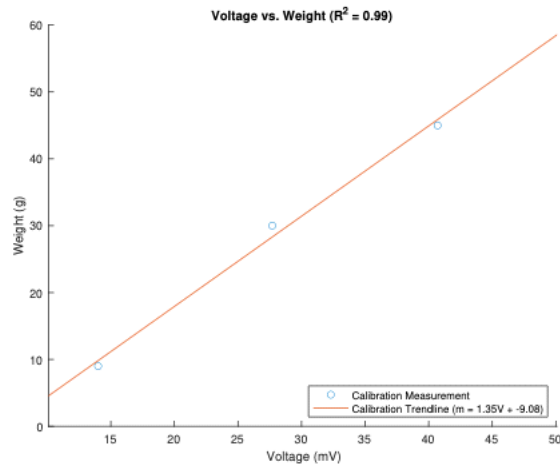

Figure 4: Voltage vs. weight, showing our three calibration weights and our calculated calibration trendline. $R^2 = 0.99$
From this data, we calculated the following linear regression, which represents our scale's relationship between voltage (V) and mass (m). A visual comparison between our data and the regression can also be seen in Figure 4.